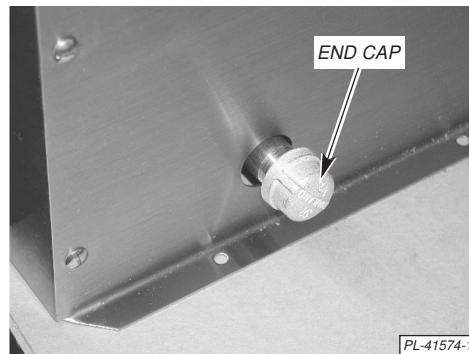

Fig. 4
*The outflow of warm water from the condenser coil can be plumbed to the prewash section of the dishwasher or to customer's drain from the 1/2 inch external threaded pipe fitting on either the rear or front of the condenser. Typically, the rear outflow fitting is used; however, if access to the rear of the dishwasher is restricted, the plumbing line may be more easily installed in the front. In either case, the alternate drain fitting, opposite the fitting being used, should be capped with the 1/2 inch pipe cap, provided (Fig. 4).*